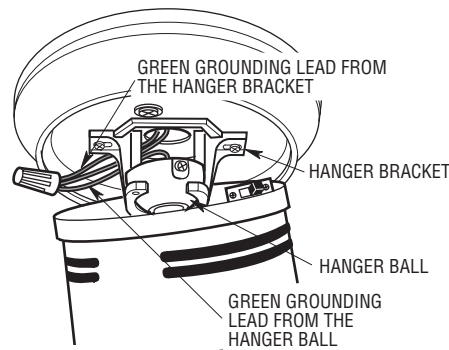

Figure 3
NOTE: Pivot the fan on its mounting ball to improve access to the top of the motor when making electrical connections with supply wires (Figure 3).
- 1. Connect the green grounding lead from the hanger ball and the green grounding lead from the hanger bracket to the grounding conductor of supply (this may be a bare wire or wire with green colored insulation) with wire connector supplied. (Figure 3.)